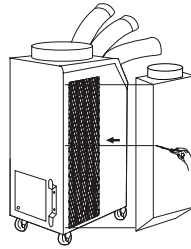

Figure 25
3. Use screws (enclosed inside of box with air adapter) to install the adapter on the air conditioner as shown in Figure 25.